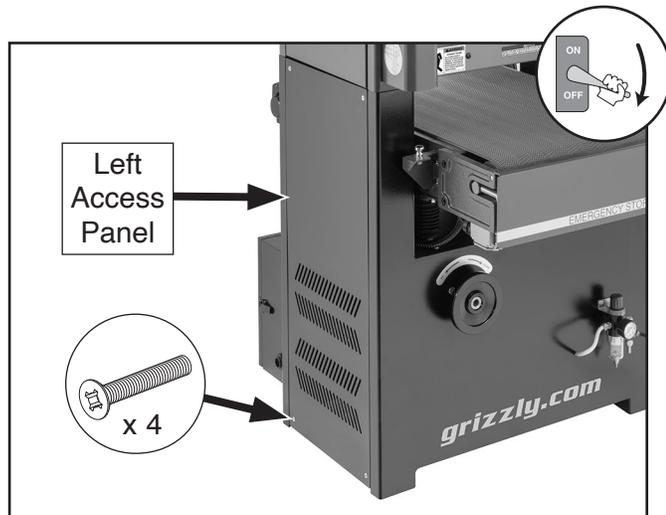

Figure 65. Location of left access panel and screws.
2. Remove (4) screws shown in **Figure 65** to remove left access panel.